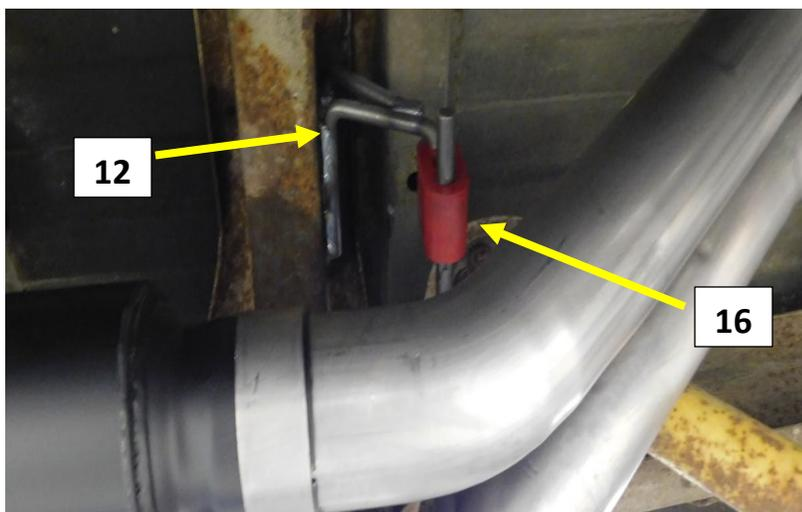

Figure.8
6. Install the supplied muffler frame hanger 543HA **(12)** at the location over the rear of the muffler using the (2x) 15mm bolts that were removed from the OEM muffler hanger. **Fig.8**